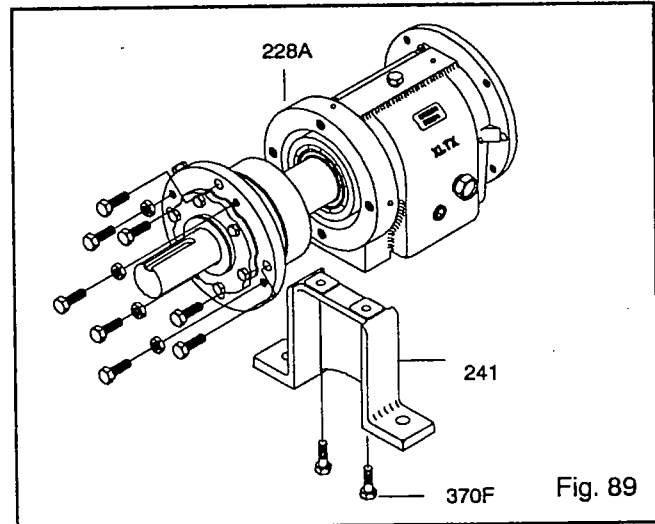

Fig. 89
11. Coat outside of bearing housing (134) with oil.
13. Install shaft assembly into frame (228A). Check shaft for free turning (Fig. 89).
14. Install clamping bolts (370C) into bearing housing (134). Hand tighten.
15. Install jacking bolts (370D) with locking nuts (423) into housing (134). Hand tighten.
16. Attach bearing frame foot (241) with bolts (370F). Hand tighten.